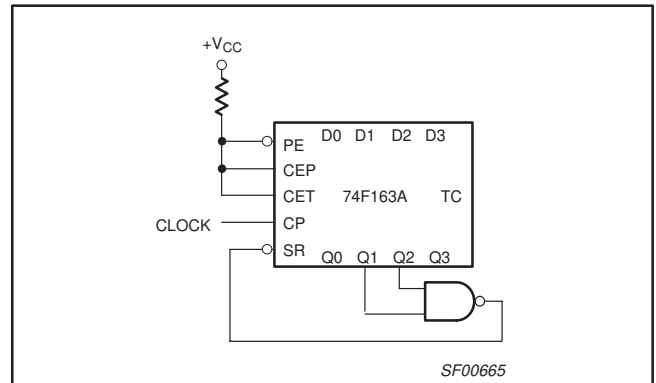
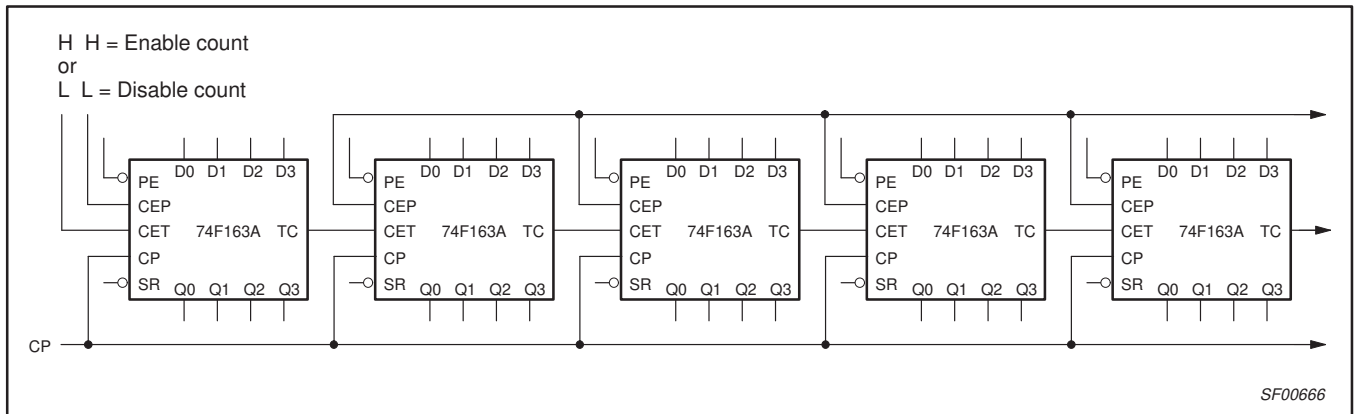

Figure 1. Maximum count modifying scheme
Figure 2. Synchronous multistage counting scheme
A Low level at the Master Reset ( $\overline{\text{MR}}$ ) input sets all the four outputs of the flip-flops (Q0 – Q3) in 74F161A to Low levels, regardless of the levels at CP,  $\overline{\text{PE}}$ , CET and CEP inputs (thus providing an asynchronous clear function). For the 74F163A, the clear function is synchronous. A Low level at the Synchronous Reset ( $\overline{\text{SR}}$ ) input sets all four outputs of the flip-flops (Q0 – Q3) to Low levels after the next positive-going transition on the clock (CP) input (provided that the setup and hold time requirements for SR are met). This action occurs regardless of the levels at  $\overline{\text{PE}}$ , CET, and CEP inputs. The synchronous reset feature enables the designer to modify the maximum count with only one external NAND gate (see Figure 1). The carry look-ahead simplifies serial cascading of the counters. Both Count Enable (CEP and CET) inputs must be High to count. The CET input is fed forward to enable the TC output. The TC output thus enabled will produce a High output pulse of a duration approximately equal to the High level output of Q0. This pulse can be used to enable the next cascaded stage (see Figure 2). The TC output is subjected to decoding spikes due to internal race conditions. Therefore, it is not recommended for use as clock or asynchronous reset for flip-flops, registers, or counters.